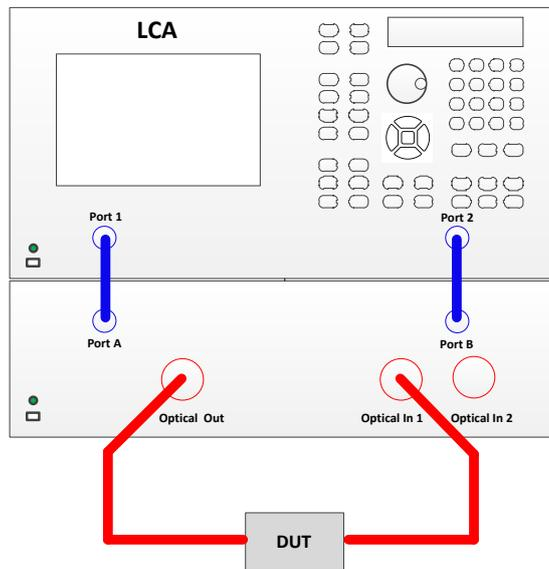

Figure 4.27 Optical-optical test block diagram
- 15) Connect the tested parts as shown in Figure 4.27.